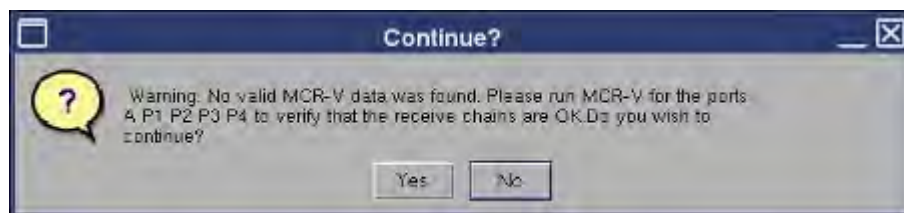

Figure 69: MCQA Warning Message
5. When the MCQA tool starts, you may see the message shown in Figure 69: MCQA Warning Message. If so, click 'Yes'